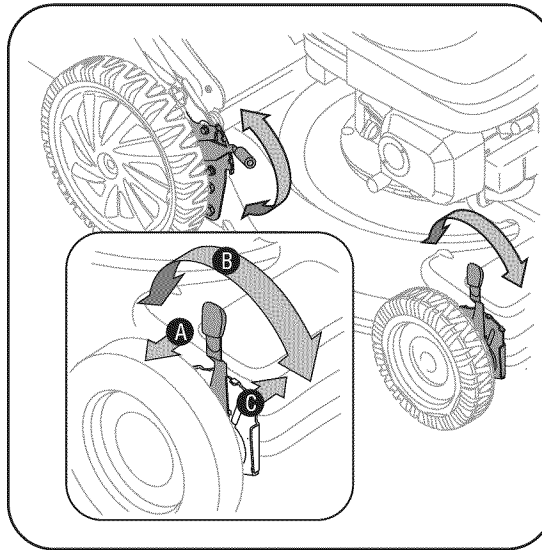

Figure 3-5
- Move it to any of the nine positions for desired cutting height. See Figure 3-5.